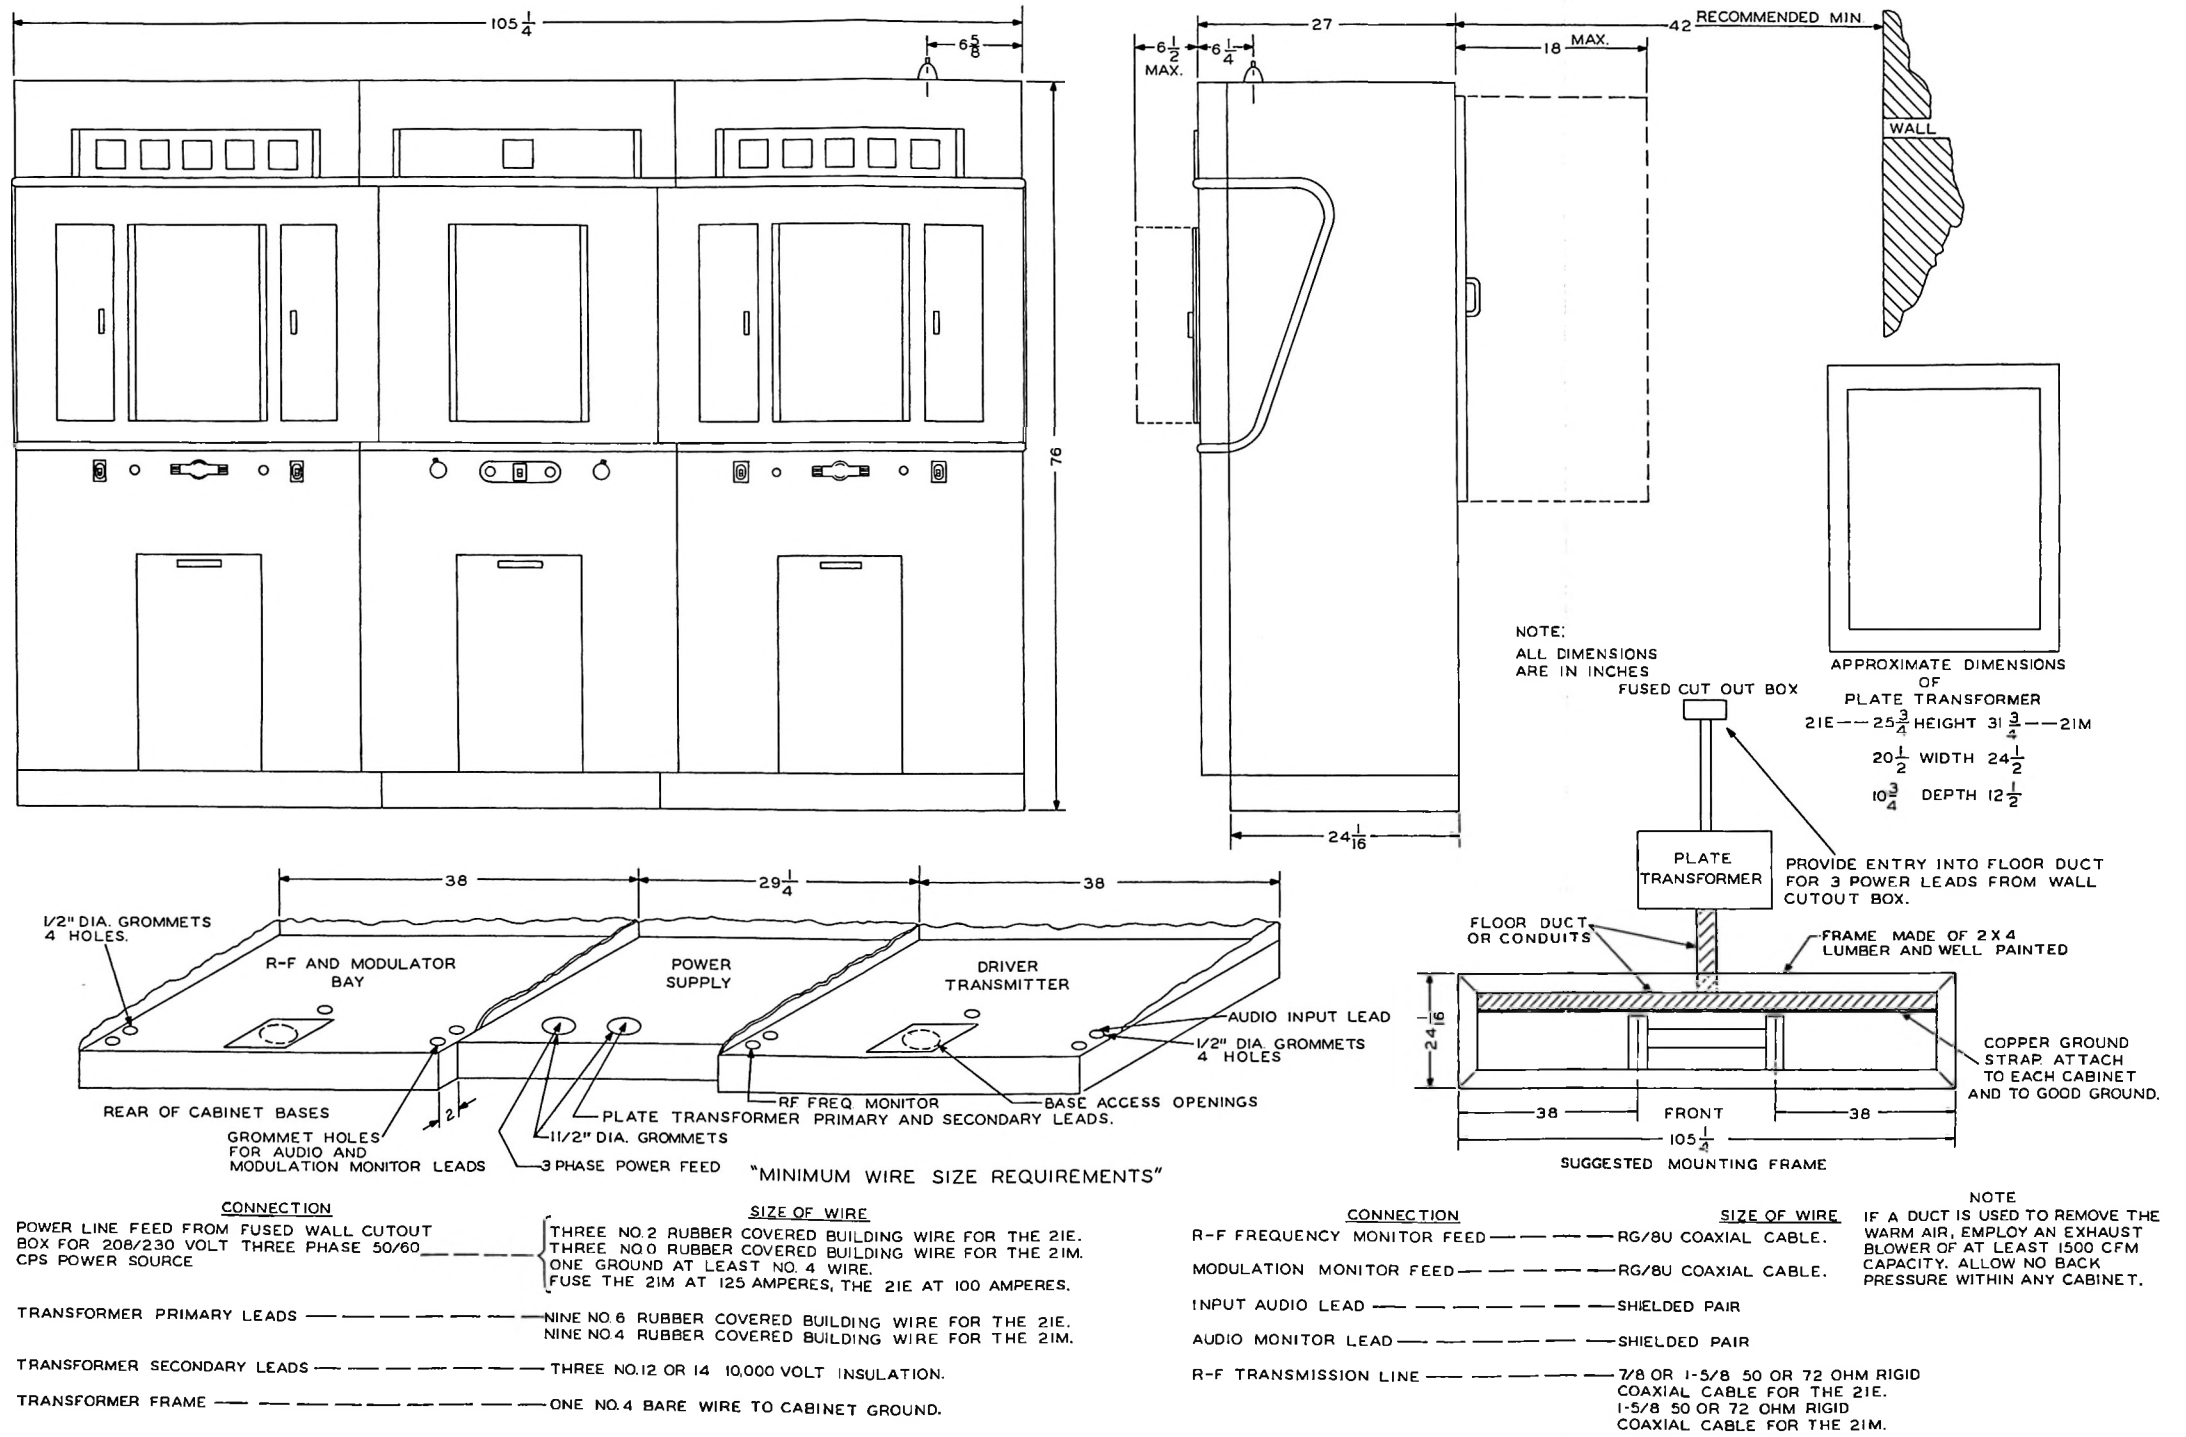

Figure 2-1. Installation Details
**2.3.1 MOUNTING POSITION.** The important consideration in selecting a mounting position is to provide adequate room for operating and servicing the equipment. Figure 2-1 shows over-all dimensions and clearance dimensions as well as all other pertinent data concerning the mounting of the transmitter.
of power leads. The mounting frame shown in figure 2-1 is adequate and recommended.
**2.3.3 ELECTRICAL DUCTS.** Provide a duct in the floor, as shown in figure 2-1, in which to run the power leads. This duct should be clean and dry with provisions to maintain these conditions.
**2.3.4 GROUND STRAP.** See figure 2-1. Install a heavy copper strap along the front edge of the duct that is under the transmitter. Attach this ground strap to the building and antenna ground system. Attach adequate length (for instance, 5 feet) of no. 6 copper wire to the ground strap at points underneath each cabinet, and coil neatly preparatory to setting the cabinets on the frame. Run a no. 4 ground wire from the ground strap back to the plate transformer position for transformer grounding.
**2.3.5 POWER SOURCE.** For the 21E, provide a 230-volt, 3-phase power source capable of 20 kw (35w for 21M) for the transmitter alone, with all other sources of load extra. Install a 3-phase, metal cutout box, independent of other loads, with 100-ampere fuses for the 21E and 125-ampere fuses for the 21M, and connect it to the transmitter/plate transformer duct with a metal conduit of 2-inch minimum diameter. Observe standard electrical conduit grounding practices, but be sure that the conduit is grounded with no. 4 wire to the transmitter ground strap, too. See figure 2-1 for primary wire sizes.
**2.3.6 DUCT WIRING.** The wires shown in table 2-1 should be placed in the duct and arranged so that they can be pulled through the proper holes in the cabinet bases. (See figure 2-1 for suggested minimum wire sizes.)
**2.3.7 OUTPUT CONNECTION.** Normally, the transmitter output connection is to a feedthrough on the roof of the power amplifier cabinet. See figure 2-1. If it is desired to route the transmitter output from the base of the cabinet and into the duct, a hole that will pass the transmission line will have to be drilled into the base of the power amplifier cabinet. This must be done before mounting any heavy components in the cabinet. A ground lug is provided adjacent to the output feedthrough in the roof of the power amplifier cabinet to ground the outer conductor of the rigid transmission line. Use a 7/8-inch or 1-5/8-inch line for the 21E and a 1-5/8-inch line for the 21M of the impedance value established in the sales contract (either 50 or 72 ohms).